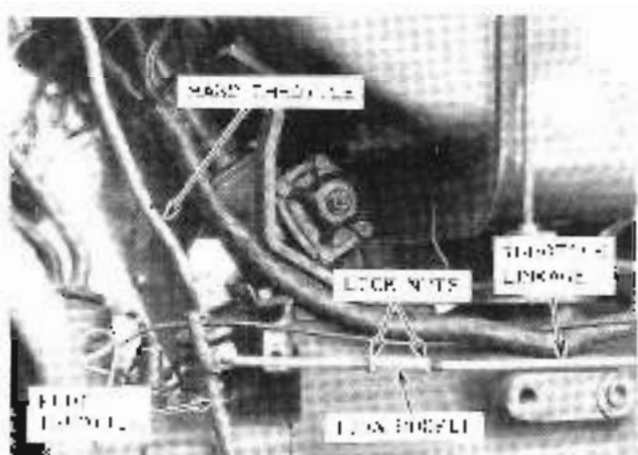

Figure 57 – Throttle Adjustment
4. Tighten the lock nut (Figure 57). Tighten the lock nut to 3.0 kg/cm2 (30.29 N/cm2).
1. Lower the load (Figure 57).